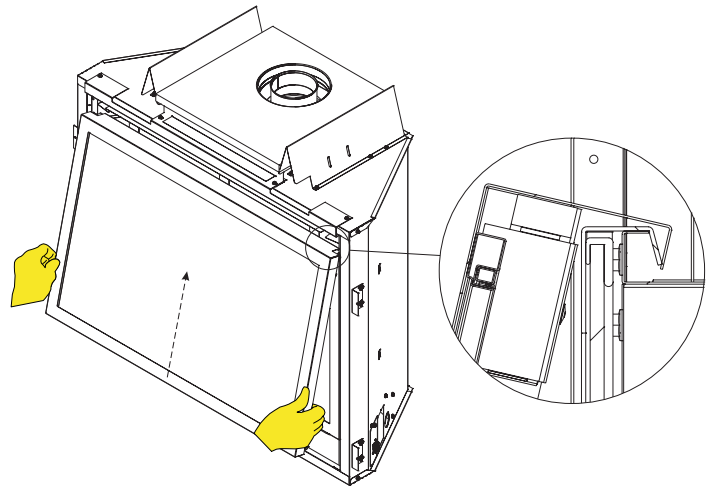

Figure 93
3. Angle barrier screen frame so the barrier screen bracket rests over the glass frame. See Figure 93.